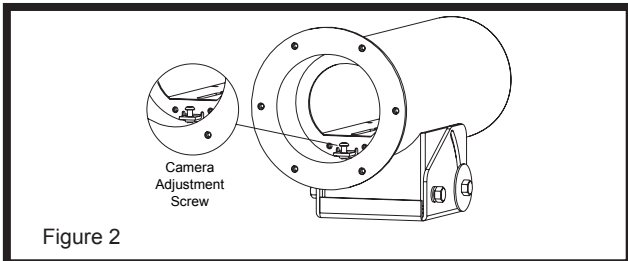

Figure 2
4. Remove the front end cap from the housing (Figure 2).